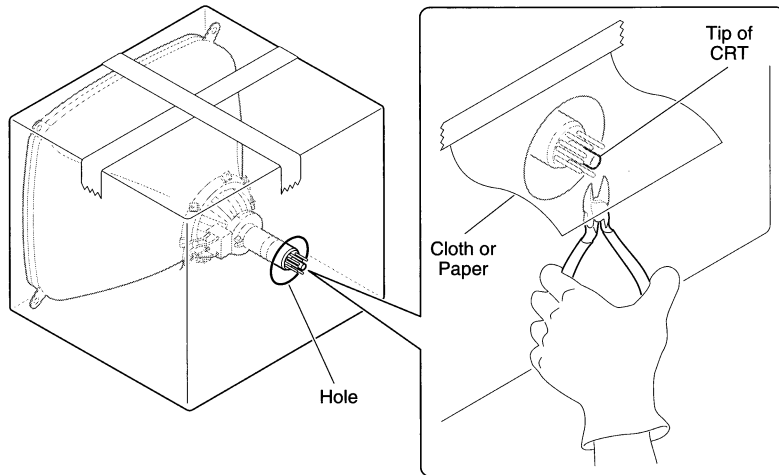

Figure 2 Devacuuming the CRT
3. FIGURE 2. Place the CRT inside the box with the tip of the neck protruding through the hole, and tape the box flaps down with the duct tape.
4. FIGURE 2. Put on gloves and, using the diagonal cutters, carefully clip off the connector pins on the end of the CRT neck.
5. FIGURE 2. Tape the piece of cloth or paper onto the box so that it forms a veil over the opening, but allows access to the tip of the CRT. The purpose of the veil is to catch bits of glass that may fly during the next step.